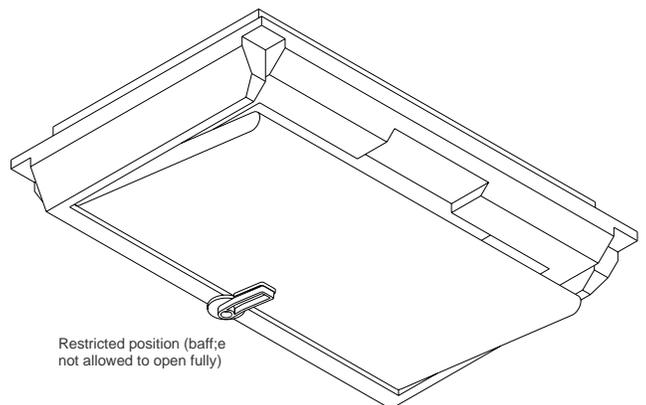

Figure 7 Inlet restrictor rotated to restrict the baffle opening (winter only)
- (2) it can be rotated to restrict the opening of baffle (see Figure 7).